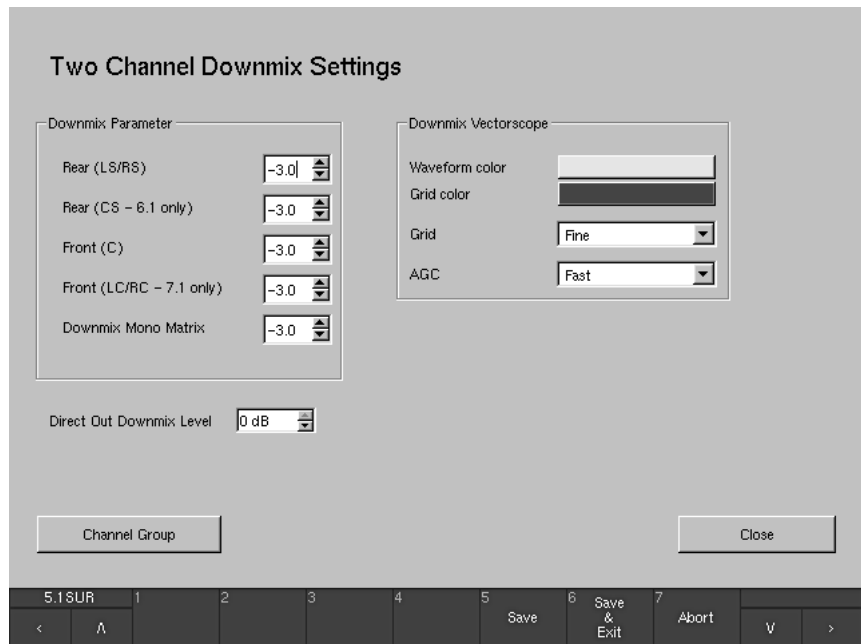

Fig. 6-37: The Two Channel Downmix Settings menu page
See chapter 6.5.1.7 and Fig. 6-37
- The **Downmix – Channel Group** menu page is accessed using the **Channel Group** button of the **Two Channel Downmix Settings** menu page (see chapter 6.5.1.7 and Fig. 6-37).